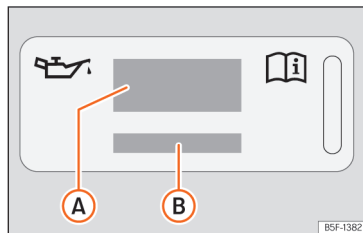
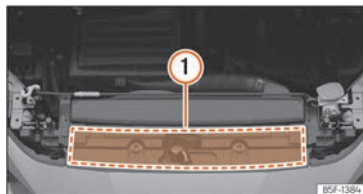

Fig. 184 In the engine compartment: engine oil label
Fig. 185 In the engine compartment: area where the engine oil label is located
Key to the >>> Fig. 184:
If the engine oil has to be topped up, use one of the oils shown on the label >>> Fig. 184. The label with the prescribed standard is located at the front of the engine compartment >>> Fig. 185
- If the label showing the engine oil specifications is missing >>> Fig. 184, please contact a specialist workshop.